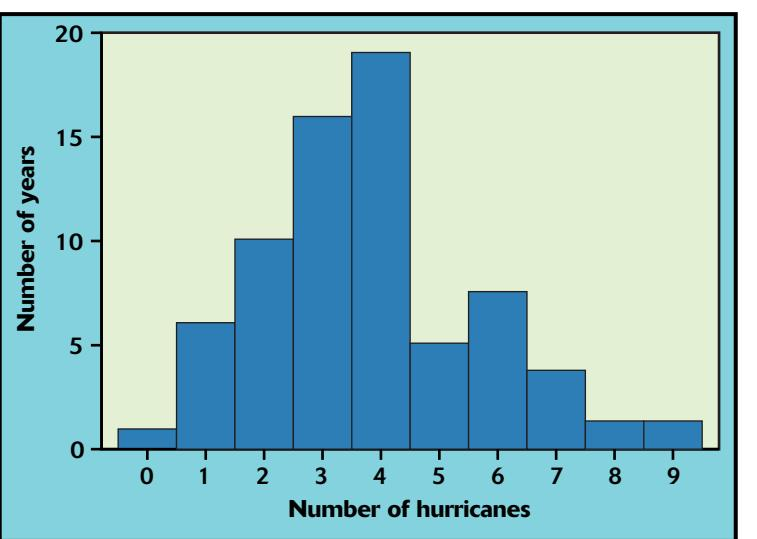

FIGURE 1.9 The distribution of the annual number of hurricanes on the U.S. east coast over a 70-year period, for Exercise 1.16.
- 1.16 **Hurricanes.** Hurricanes cause a great deal of property damage and personal injury when they hit populated landmasses. A substantial portion of hurricane loss is paid for by insurance companies in the form of paying for lost property and medical bills. For this reason, insurance companies study the number and severity of the hurricanes that can potentially cause them loss. The histogram in Figure 1.9 shows the number of hurricanes reaching the east coast of the United States each year over a 70-year period.¹³ Give a brief description of the overall shape of this distribution. About where does the center of the distribution lie?